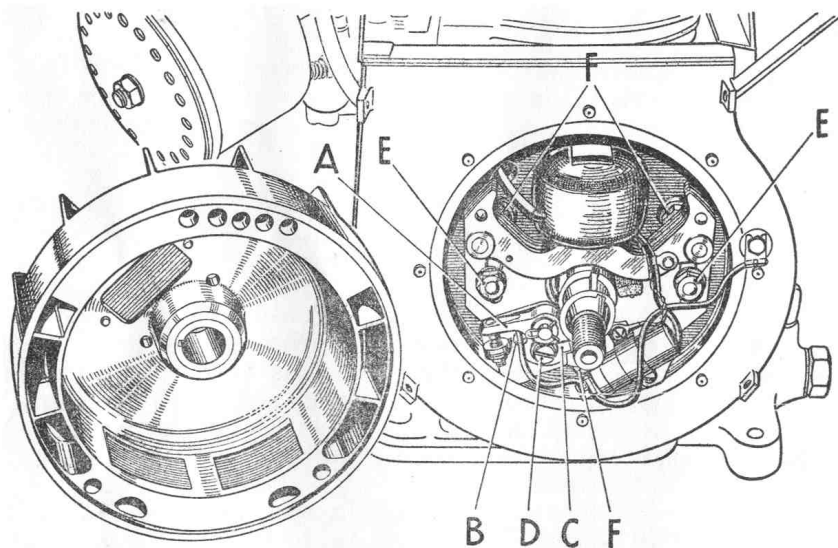
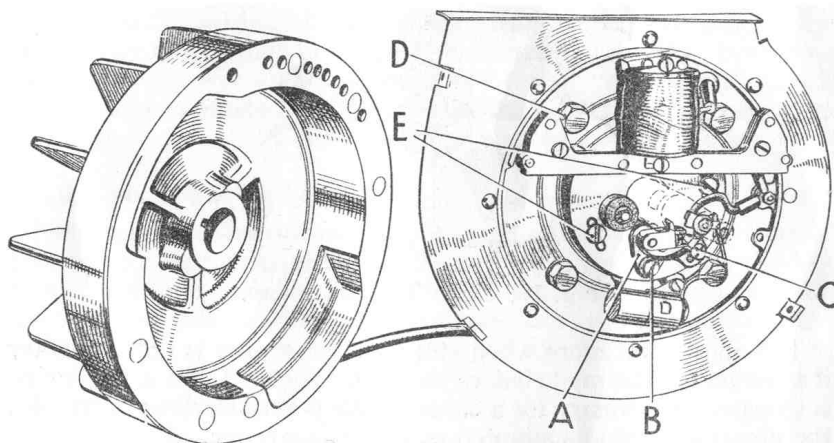

Fig. 14. Contact Breaker Points (98 c.c.).
Fig. 15. Contact Breaker Points (120 c.c. and 220 c.c.).
Any variation in timing can only be secured by moving the contact breaker housing. This can be rotated through a very small angle by releasing the nuts (E) Fig. 14 (98 c.c.), screws (E) Fig. 15 (120 and 220 c.c.), move the plate radially in its slots, re-tightening after the adjustment has been made. It is emphasised that this is a works adjustment rather than one which the owner is ever likely to carry out.
The gap between the points when they are fully open should be .018—.020 in. Rotate the engine until the rocker arm (A) Fig. 14, is on the peak of the cam, then check the gap between the points with the aid of feeler gauges. If the gap is incorrect, slacken the screw (B) which locks the breaker plate (C) and turn the eccentric head screw (D) until the adjustment is correct. Then lock the plate (C) securely by re-tightening the screw (B). Finally re-check the adjustment.